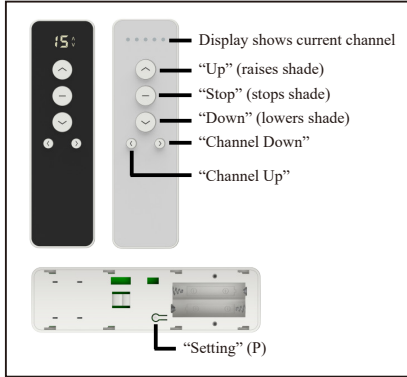

Fig 18
Your remote Control has six(6) buttons, Up Down, Stop, channel increase, channel decrease and setting(Fig 18).